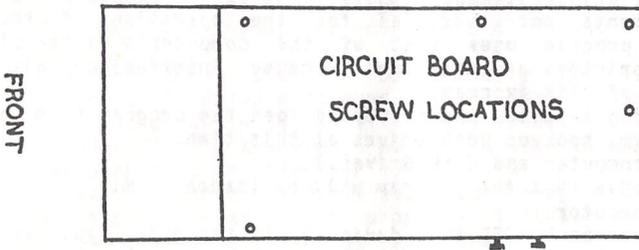

FIG. 2 TOP VIEW
- d) Place the disk drive in the normal position (right side up, and the front facing you). Remove the screws that attach the circuit board to the frame (see figure 2).